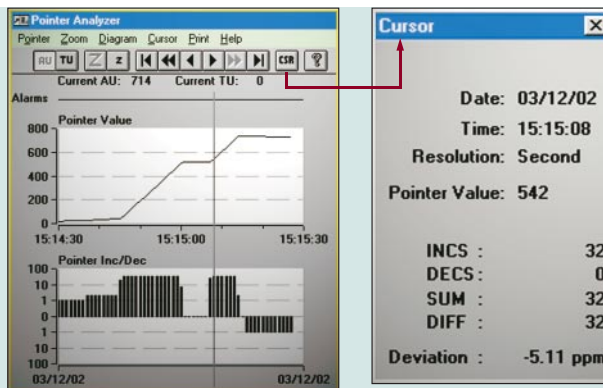

figure 6 Graphic pointers. Display showing additional evaluation of cursor position
**Analysis of AU and TU pointer actions (figure 6)**